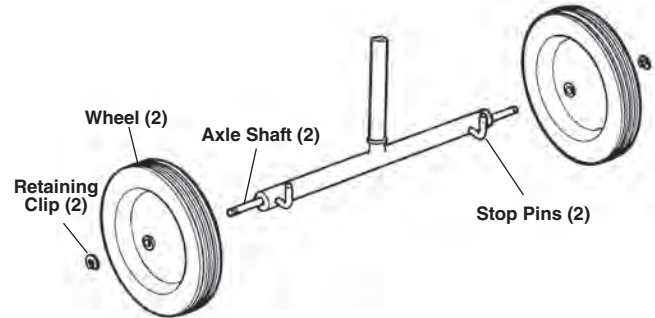

Figure 27 – No. 32 Transporter Assembly
- If needed, assemble the No. 32 Transporter (see *Figure 27*).